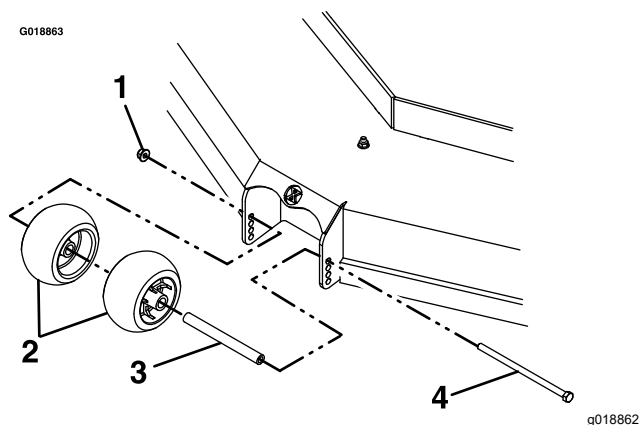

Figure 29
- Torque the nyloc nut (3/8 inch) to 41 to 47 N·m (30 to 35 ft-lb) as shown in Figure 29.